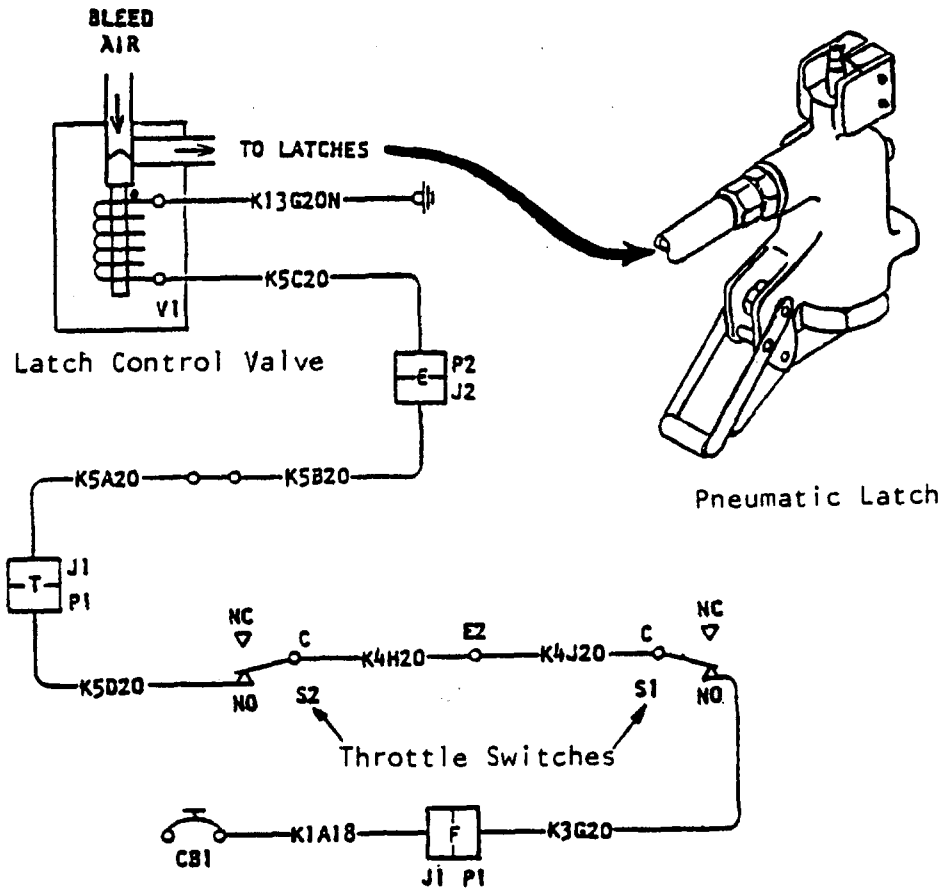

Figure 2 - Pneumatic Latch Control Solenoid Valve (Electrical Circuit)
2. Operation. The pneumatic latch control solenoid valve is energized with 28 vdc as deploy circuits (see Figure 2) are completed when the thrust reverser levers are raised to the "Reverse Idle" position. Energizing the solenoid causes the plunger to be drawn into the coil which depresses the stem of the valve module allowing engine bleed air to enter the latch control valve. At the same time the plunger opened the valve module, it closed off the vent port so the air can only go to the pneumatic latches. The solenoid remains energized until the thrust reverse levers are pushed down to the forward thrust (stowed) position. This de-energizes the latch control solenoid which allows engine bleed air to push the plunger off its seat allowing the valve module to close. Simultaneously, the air that was pressurizing the pneumatic latches can escape out the vent port to atmosphere.